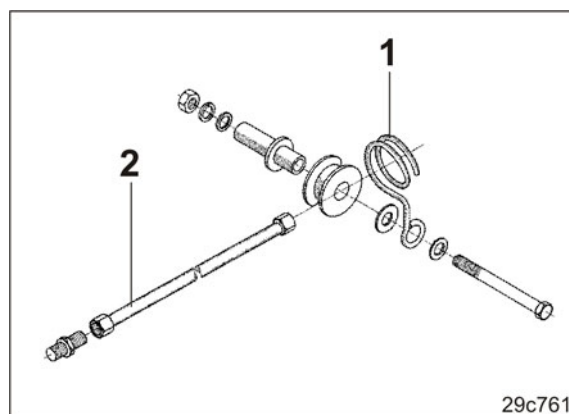
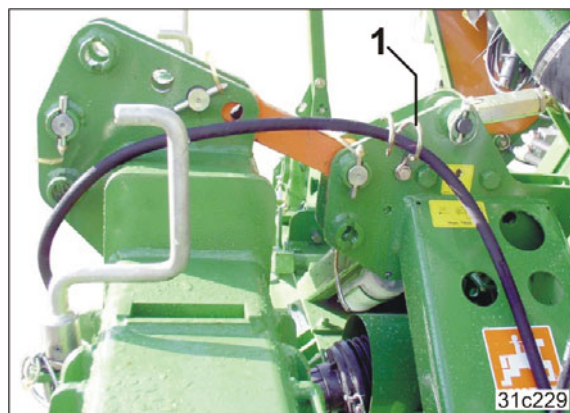

Fig. 16
Fig. 17
3. Attach the hose carrier (Fig. 16/1) to the tower of the rotary cultivator / harrow (see Fig. 17).
4. Equip the hydraulic hoses of the seed drill which are connected with the tractor spool valves with hydraulic hose extensions (Fig. 16/2).
5. Hook the hydraulic hoses and cables into the hose carrier (Fig. 17/1).